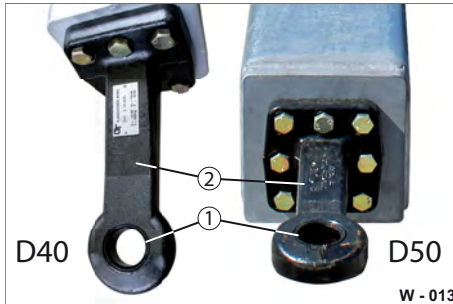

Fig. 16 Lubricating towing eyes/wear inspection
- ▶ Lubricate the wear bushing (Fig. 16/1) and the rounded area of the towing eye (Fig. 16/2) with long-term high pressure lubricant.